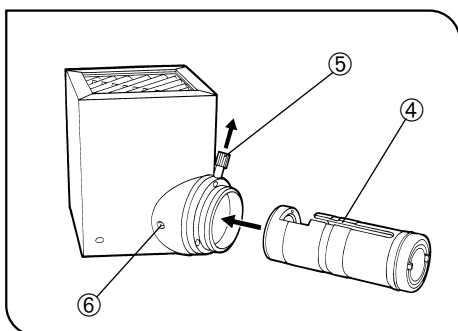

Fig. 6
1. While pulling up the collector lens focusing knob ⑤ up, push in the collector lens by aligning its positioning groove ④ with the pin inside the opening. After inserting the lens until it stops, release the knob ⑤. Now turn the knob and ensure that the collector lens moves in two ways. If it does not move, move it manually until it reaches a position where it clicks into place.
2. Tighten the collector lens clamping screw ⑥. (Fig. 6)